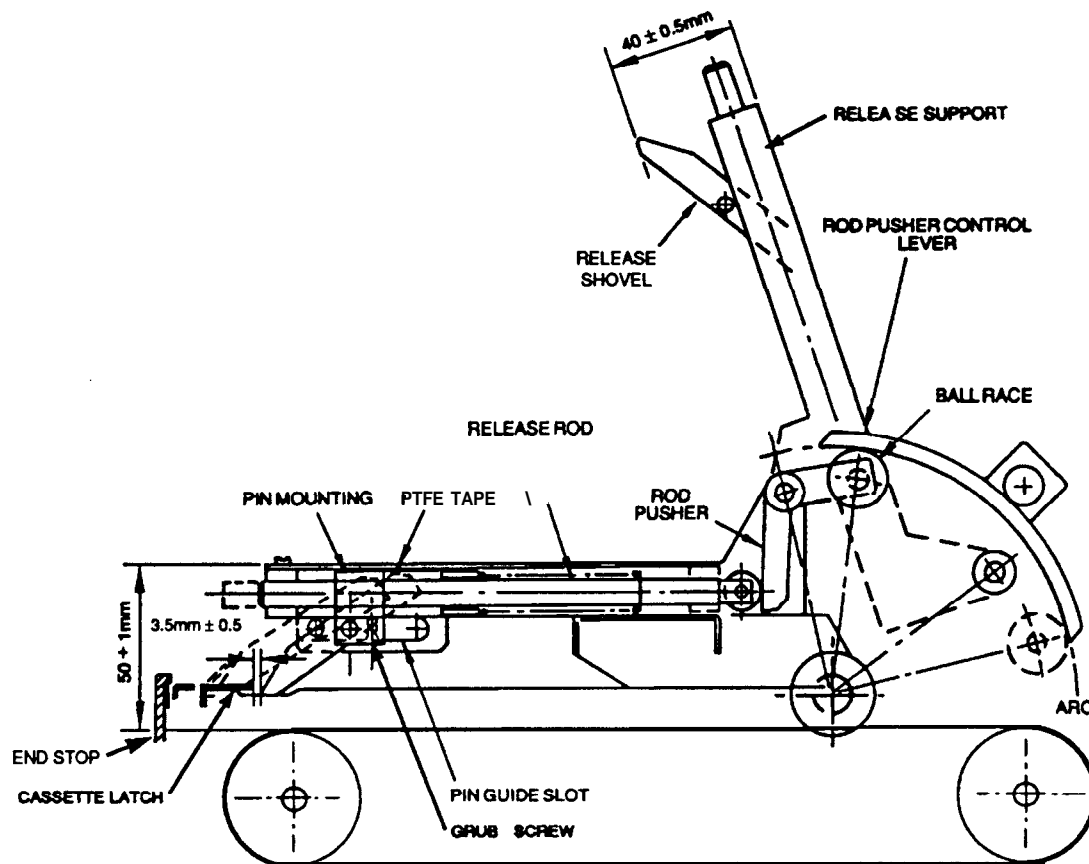

Figure 2
- 1 Using the JOG SWITCH (S 16 on PCB 106/A/B), cycle the CASSETTE OPENER MECHANISM until the RELEASE SUPPORT is at its lowest point relative to the CONVEYOR BELT. Set this height to be 50 mm  $\pm$  1 mm (see fig 2 • page SM 11) by adjusting the PUSH ROD 30012190.
- 3 Place a CASSETTE in the MINILOADER and push it hard against the **ENDSTOP**. Using the JOG SWITCH cycle the MINILOADER to the point where the RELEASE ROD and SHOVEL are just about to move forward. Measure the gap between the CASSETTE LATCH and the RELEASE SHOVEL (see fig 2 • Page **SM 11**). The gap **should** be 3.5 mm  $\pm$  0.5 mm. If it is necessary to alter the gap, cycle the MINILOADER until the CASSETTE OPENER MECHANISM is raised, unhook the CASSETTE if it has been opened, and release the GRUB SCREW to slide the TOOTH ASSEMBLY on the RELEASE ROD (make sure you release the correct GRUB SCREW, it is the recessed one, the other SCREW controls the RETURN SPRING tension). Cycle the MINILOADER and re-measure the gap. Repeat until the correct gap is obtained.